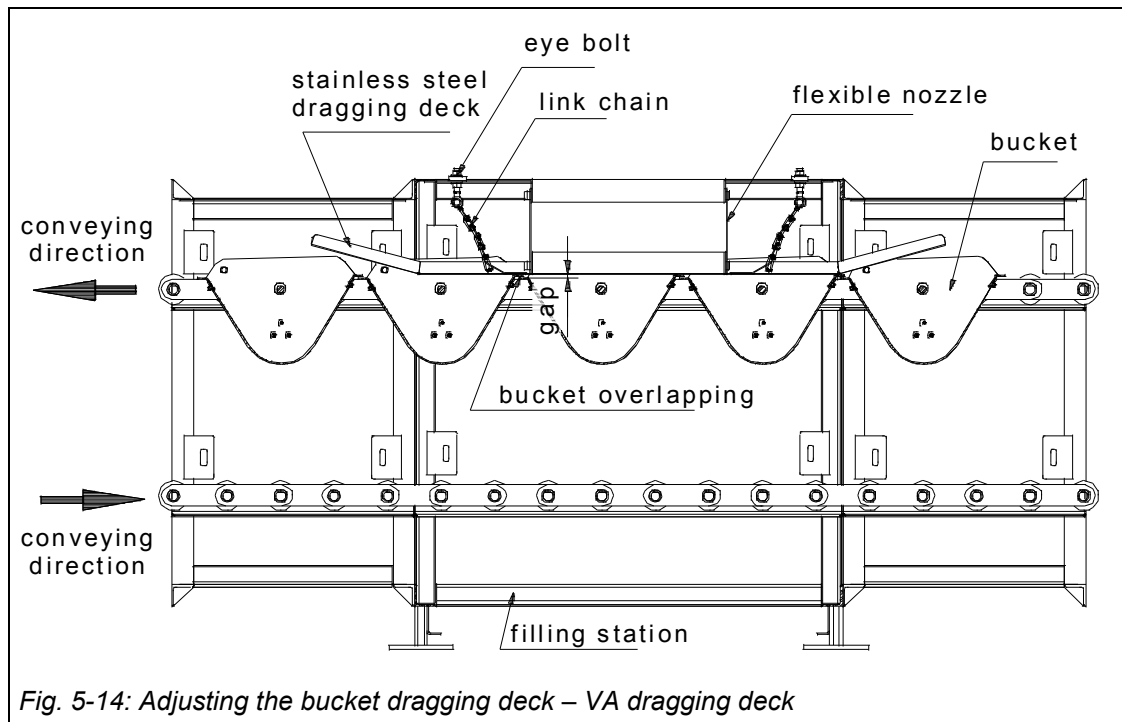

Fig. 5-14: Adjusting the bucket dragging deck – VA dragging deck
- Align the bucket dragging deck parallel to the bucket line and tie it up with the eye bolts located at the cover sheet of the filling station by using four the four pieces of chain (part of delivery volume). By using the eye bolts adjust the dragging deck in that way that it may rest only loosely on the line of buckets (see Fig. 5-14). There should be a small gap between the dragging deck and buckets overlapping edges.